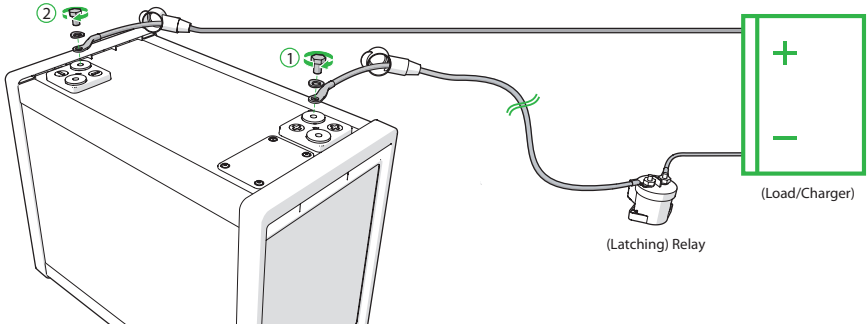

Figure 7. Connecting the battery to the load
2. Connect the + terminal of the battery to the - or A2 terminal of the relay (Figure 7).
4. Connect the - terminal of the battery. Do not connect the - terminal first as this may lead to short circuits (Figure 7).